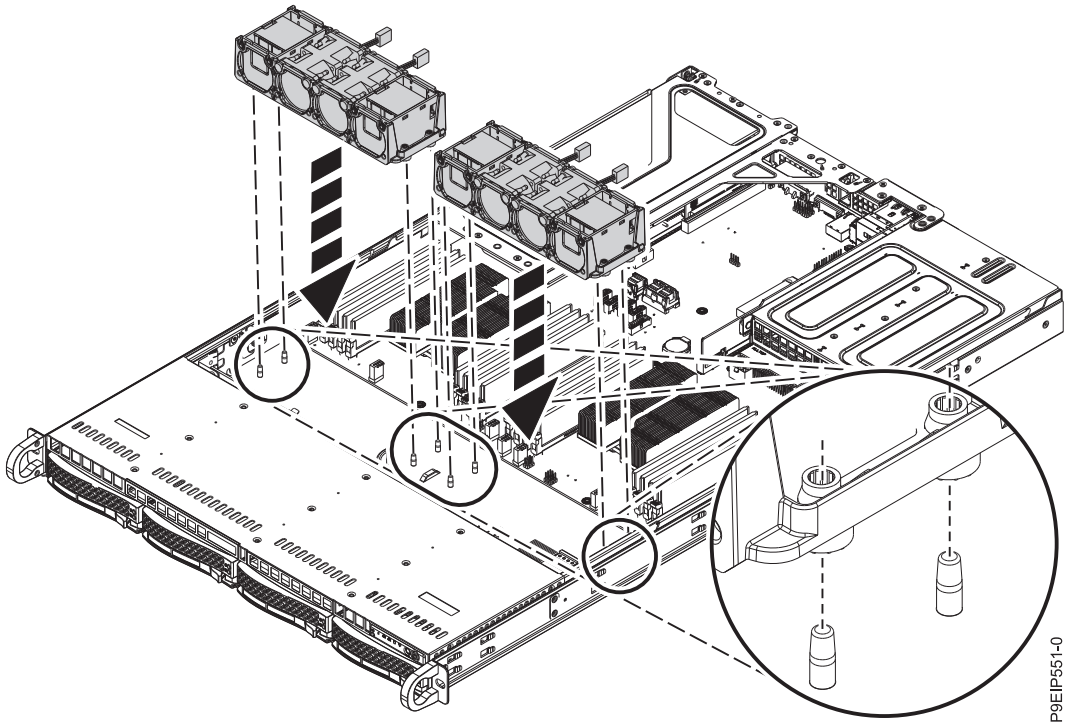

Figure 20. Aligning the fan holder
3. Replace the fan holder into the chassis. Align the holes in the fan holder with the pins in the bottom of the chassis as shown in Figure 20 on page 22. For the fan holder near the cover switch, temporarily move the cover switch wires out of the way. When the fan holder is seated into the system, replace the wires next to the fan holder.